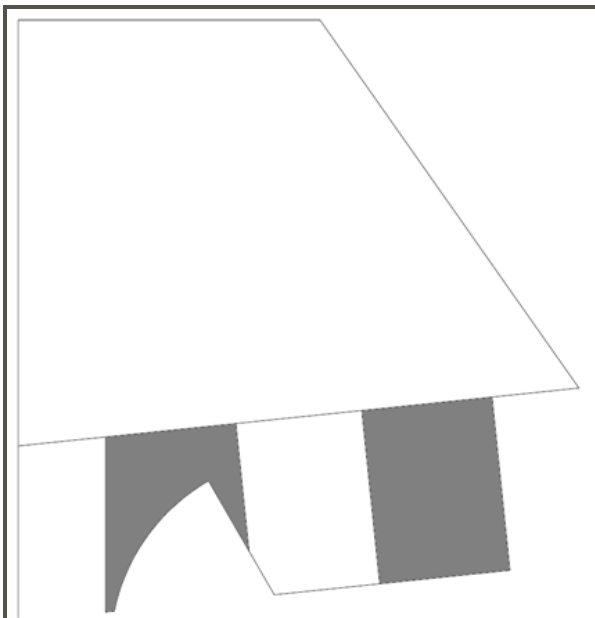

Figure 14 - Vertical Stabilizer Beveling Reference
- Again, using sand paper affixed to a flat sanding block, sand bevels in the front and the rear of the vertical stabilizer (A3) in the areas marked in gray in *Figure 14*. Sand evenly on both sides trying to thin down the front and rear to a fairly narrow profile (less than ½mm).